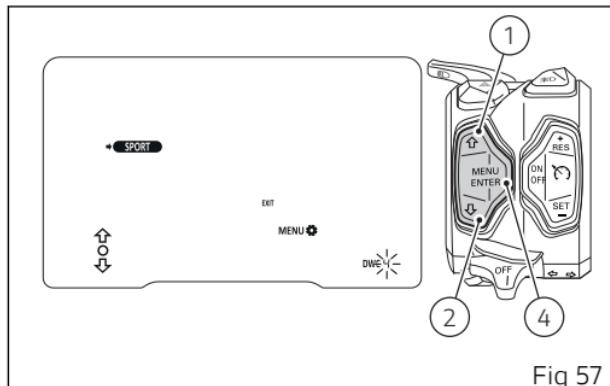

Fig 57
When entering the function, the DWC value starts flashing (Fig 57). Use buttons (1) and (2) to set required value, which can be 1 to 8 or "OFF", i.e. DWC disabled. To confirm, press the button (4).